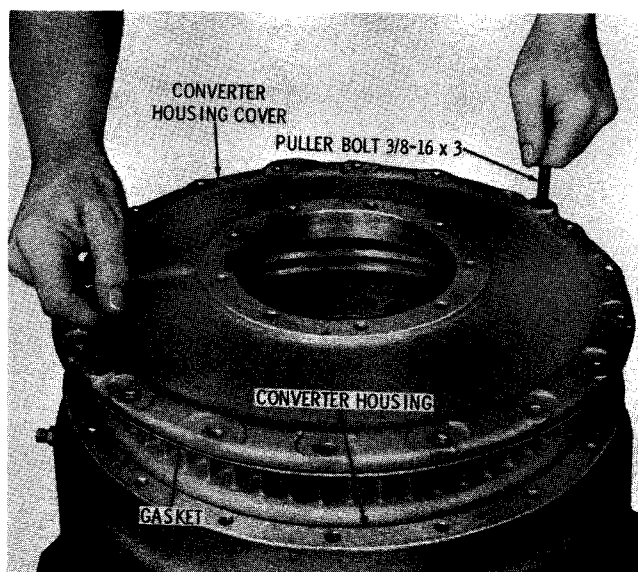

Fig. 5-11. Removing (or installing) converter housing cover
(1) Remove eighteen bolts 23 and 25 (A, foldout 13) and lockwashers 22 and 24 from converter housing cover 21.
(2) Install two puller bolts into the cover (fig. 5-11). Lift the cover from the converter housing and remove the gasket.